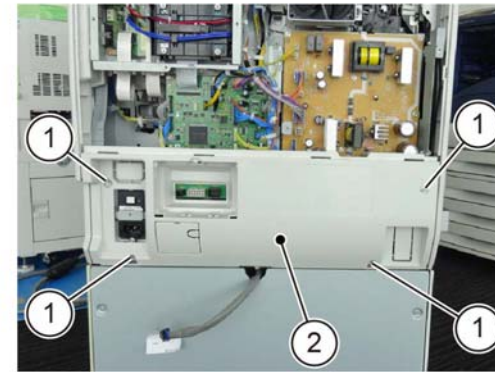

Figure 2 Lower rear cover removal
4. Remove the lower rear cover, Figure 2:
- a. Remove four screws (1).
- b. Remove the lower rear cover (2).